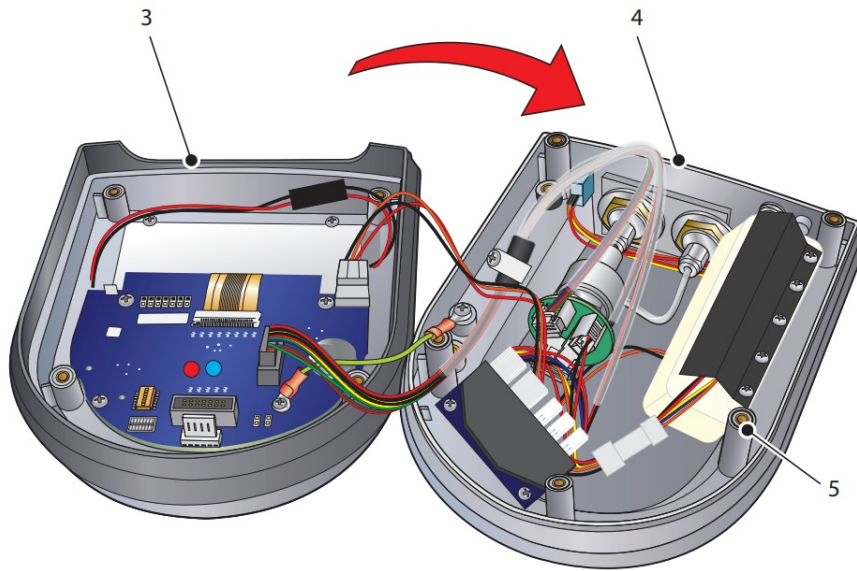

Figure 2 *Open Case*
There should also be an O-ring (see Figure 2, (5)) on each of the five pillars – keep these safe for later use.
6. Place the two halves of the casing (3) and (4) side by side (refer to Figure 2).